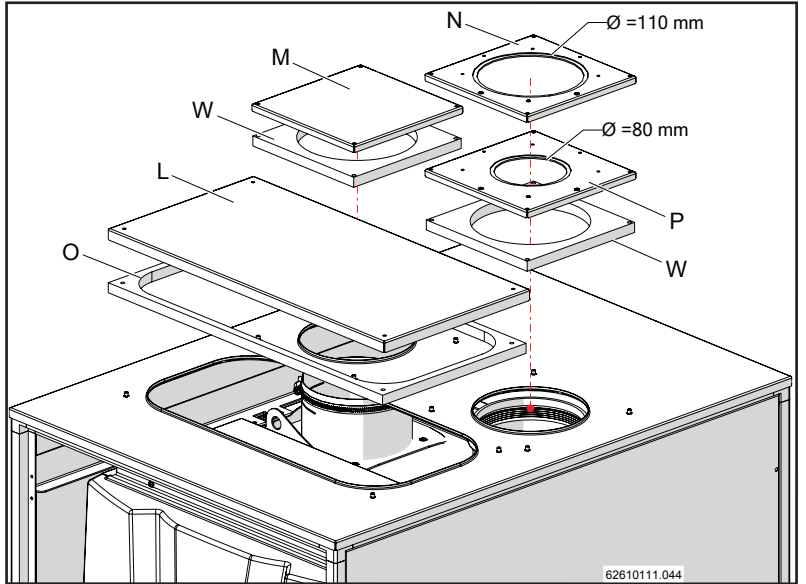

Figure 15-25
- 14.- Attach, using screws "D", the shelter for the electrical connections "L", for the intake "M" and for the outlet "N" (or "P") to the top cover (figures 15-25 and 15-26); remembering to insert gaskets "O" and "W" as shown in figure 15-25.
- If you have a flue gas outlet 110 mm in diameter, use outlet cover "N" in figure 15-25.
- If you have a flue gas outlet 80 mm in diameter, use outlet cover "P" in figure 15-25.